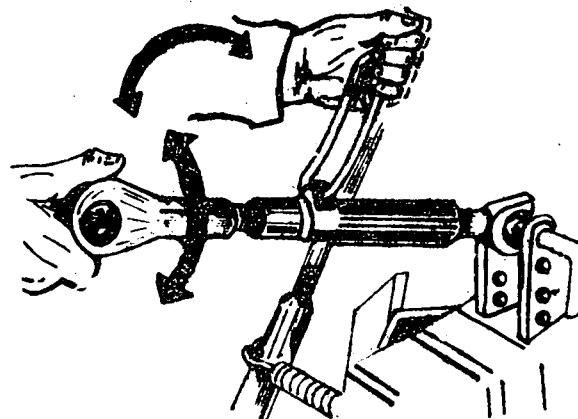

Fig. 5
- g) Adjust the top link until it coincides with the upper hitch point of the implement (Fig. 5).